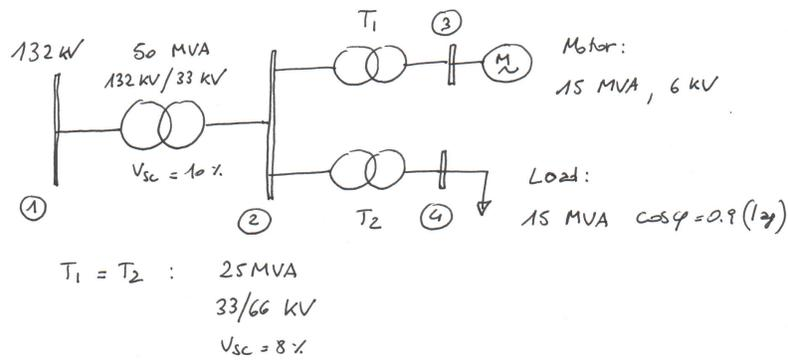

Figure E.1
E.1. The system shown in Figure E.1 feeds an induction motor and a load. At start-up, the motor current is purely inductive and 5 times the nominal current. Assuming that the voltage at bus 1 is constant, determine the voltage at bus 4 when the motor starts up in the following two scenarios: